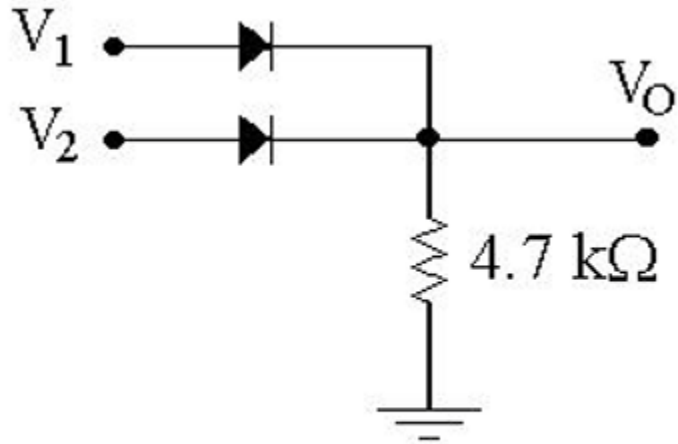

Figure 3 : Positive Logic OR Gate.
1. Construct the circuit as show in Figure 3.
1. On the basis of your results obtained in Table I, show that the circuit of Figure 2 behaves as AND gate for positive logic, but it will function as an OR gate for negative logic. Similarly, show that the results of Table II indicate the circuit of Figure 3 behaves as an OR gate for positive logic and as an AND for negative logic.